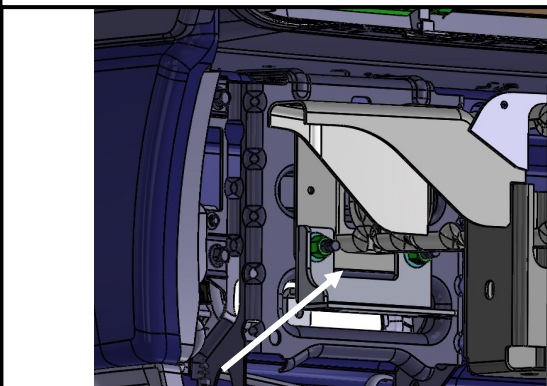
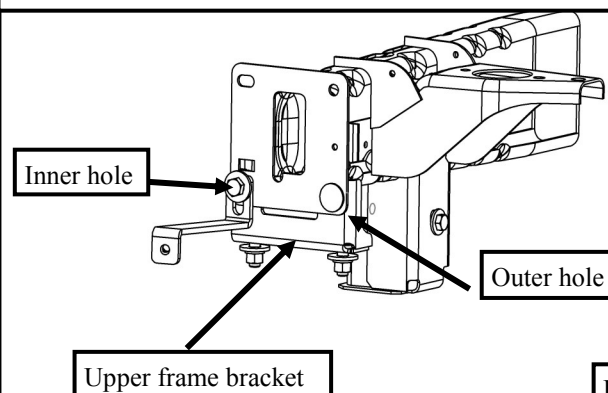

Fig. 7
Fig. 8
- A. **For vehicles w/o tow hooks:** Place the upper frame mounting bracket (**Item #6**) up against the frame of the vehicle as shown in **Figure 7**. Make sure to align the holes of the bracket with those of the frame.
5. Loosely install the upper support strap (**Item #4**) to the opposite side of the frame, through the tow hook pocket. Refer to **Figure 8** for a picture showing the correct mounting location of the upper support strap. For the inner hole, secure the support strap and upper frame bracket by using the provided long M12 hex head cap screw (**Item #22**) and the nut removed in step 2 (**FIG 7**). (**NOTE:** Stock bolt will not be re-used for the inner hole). For the outer hole reuse the stock hardware removed in step 2.)